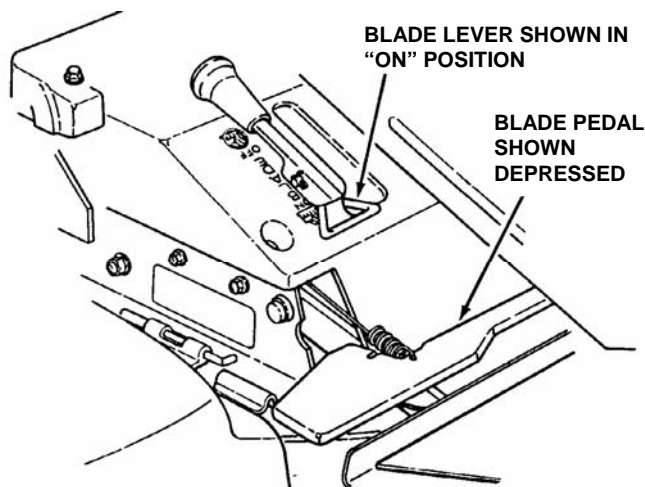

FIGURE 2.10
2. Move blade lever forward to the "ON" position, then depress blade pedals to hold blade lever in the "ON" position. See Figure 2.10.